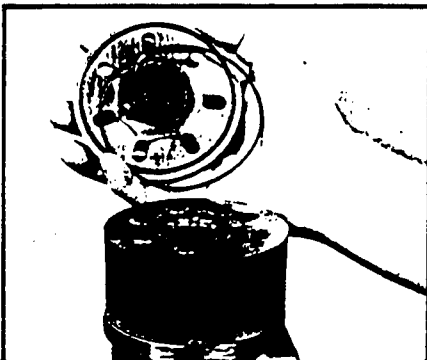

Figure 6
3. Remove end cover (3) and seal ring (5). Discard seal ring (5). SEE FIGURE 6.